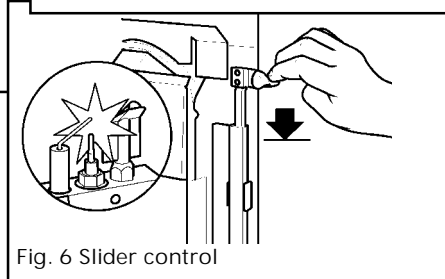

Fig. 6 Slider control
**3.1.2** Depress the slider as far as it will go (see figure 6). This should close the ignition circuit.
**8.4.2** Depress the slider knob as far as it will go and hold in this position (see section 3.1.2 and figure 6). This should close the ignition circuit and (now that the gas is connected) simultaneously open the gas tap allowing the gas to flow to the pilot. Wait a few seconds while the air is purged. The electronically generated sparks should light the pilot. The pilot should then light the main burner at its low setting. There may be a delay of up to four seconds between the pilot lighting and ignition of the gas at the main burner. This is normal and is due to the time required to fill the main burner compartment with sufficient gas for ignition.